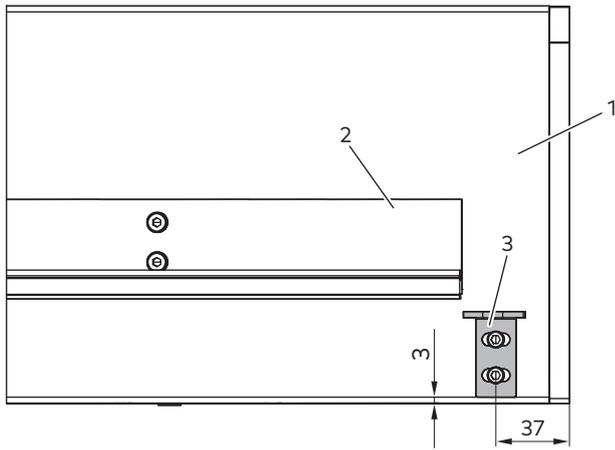

Fig. 42 Mount the outer angle bracket
1. Fit the angle bracket (Fig. 42/3) to the ceiling half (Fig. 42/1) on which the track (Fig. 42/2) for the night shield is mounted.
2. Position the angle bracket as in Fig. 42.